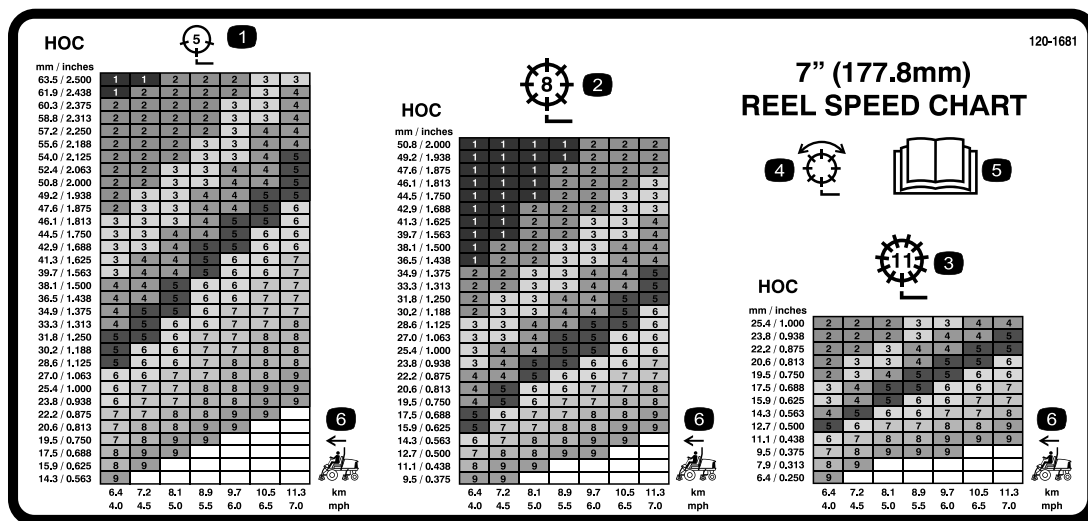

Figure 37
3. Using the appropriate graph on the decal (Figure 37) determine the proper reel speed setting.